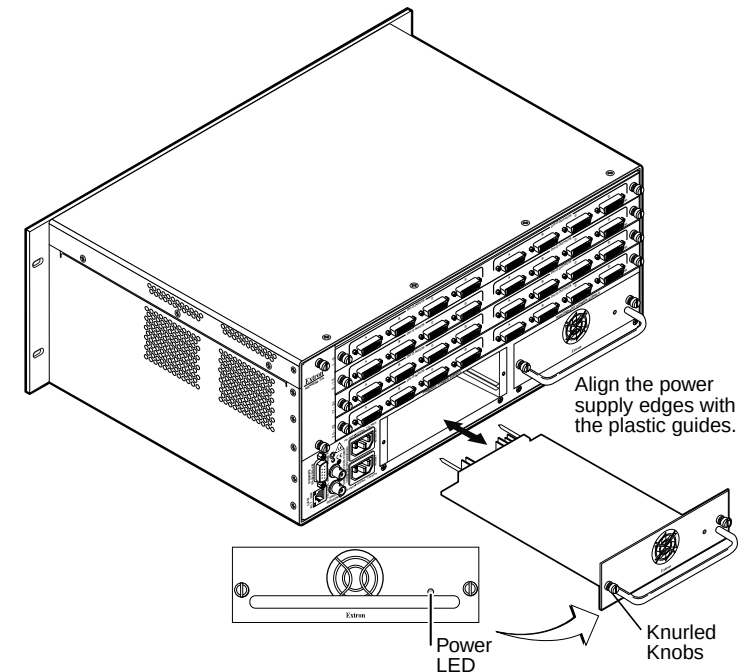

Figure 14. Remove and Install a Power Supply Module
1. Rotate the left and right knurled knobs to completely loosen the captive screws (see figure 14).